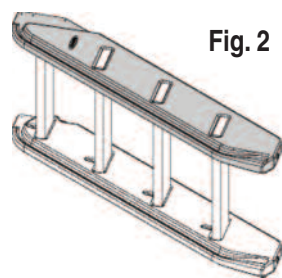

Fig. 2
- Insert the right (R) step side rail on top of the existing boards until the standard boards are flush with the outside of the side rail. (Fig. 2)